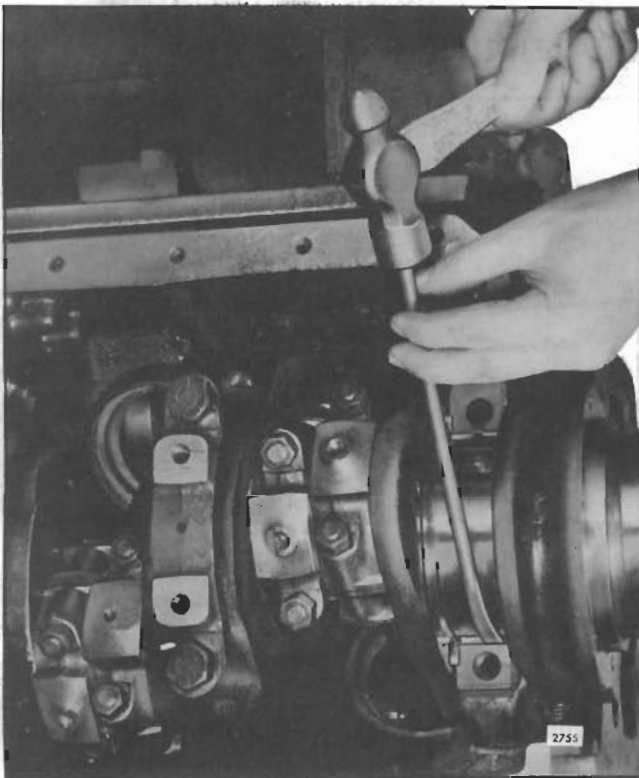

Fig. 4 - Removing Upper Rear Main Bearing Shell
- b. Remove the rear main bearing upper shell by tapping on the edge of the bearing with a small curved rod, revolving the crankshaft at the same time to roll the bearing shell out as shown in Fig. 4.